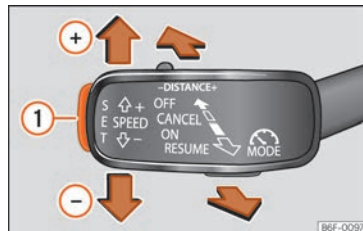

Fig. 152 On the left of the steering column: third lever for operating the GRA.
- Push button SET »» Fig. 152 ①.
- Press the button **SET**  **»» Fig. 152 ①** to reduce speed in small increments of 1 km/h [1 mph].